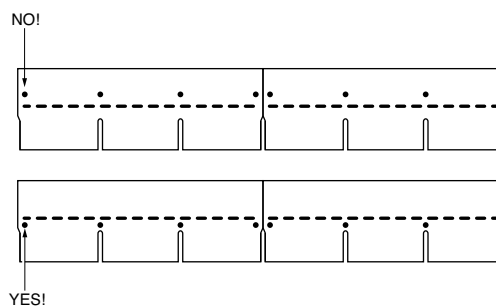

Figure 1-4: High nailing; prohibited
**Fasteners outside the target area:** Fasteners consistently applied outside the approved target area often lead to roofing failures (Figure 1-4).